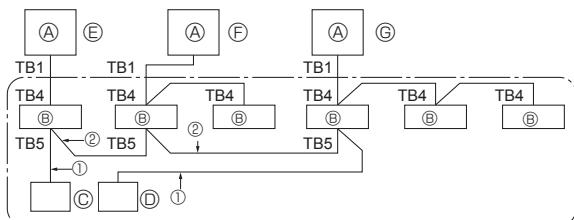

Fig. 9-1
9. System control (Fig. 9-1)
⑤ SW 1 - 3 ~ 6	ON